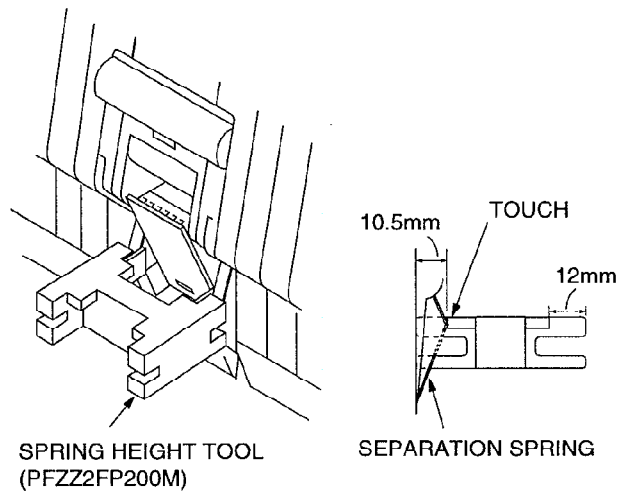

Fig. 2
3. Check the lowest level of the separation spring with the opposite side of the spring height tool. Please make sure that the separation spring does touch the tool during this operation. (See Fig. 2.)